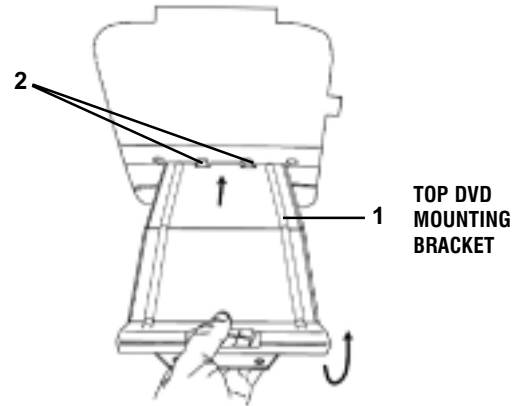

FIGURE 26
1. INSERT THE TWO TABS ON THE FORWARD SIDE OF THE TOP DVD MOUNTING BRACKET (1) INTO THE TWO HOLES (2) IN THE ROOF BOW AS SHOWN. (SEE FIGURE 26)